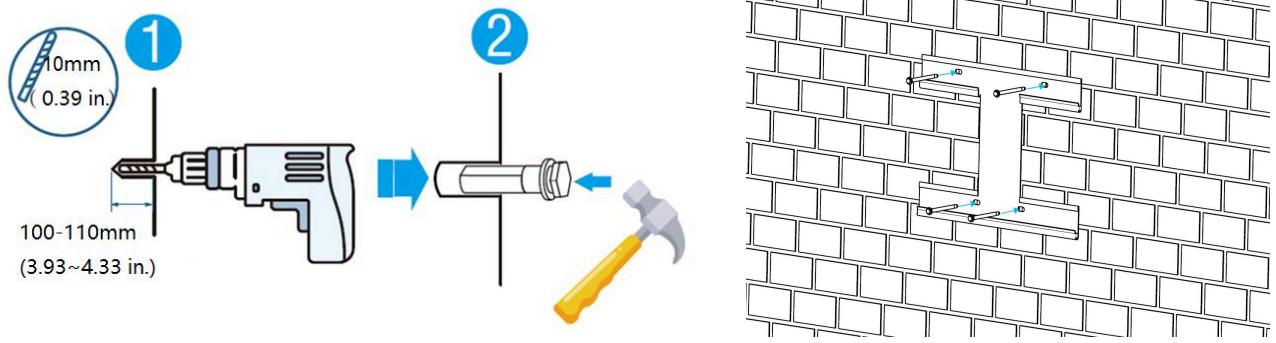

Figure 5-1
- b) Choose the recommended drill head (as shown in Figure 5-1) to drill 4 holes on the wall, 100mm-110mm deep.
- c) Use a proper hammer to fix the hanging plate to the wall, fit the expansion bolt (M6*100) into the holes, as shown in Figure 5-1.